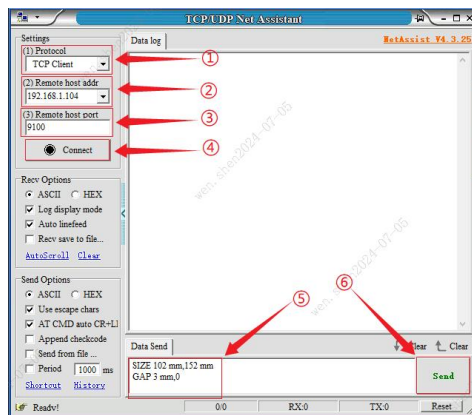

图 1 Fig.1
2. Open the host software. In the host software: (1) Select "TCP Client" as the protocol type; (2) Enter the IP address obtained from the configuration in the Remote Host address field. (3) Enter the TCP port number: 9100.
4. Enter the print command in the data sending area and click the "Send" button to print (shown in Fig. 1).